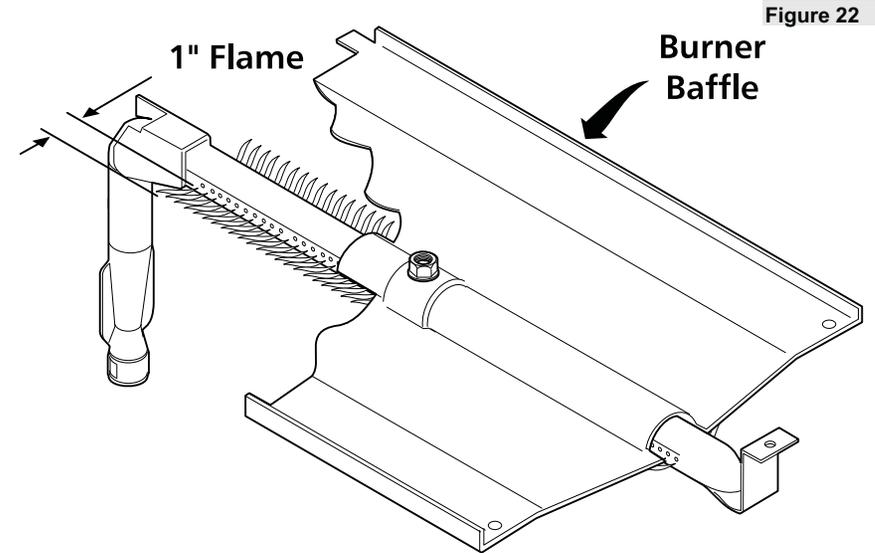

Figure 22
The air shutter for the oven bake burner may need adjustment, especially if the unit has been converted for use with LP/Propane gas. The approximate flame length of the oven burner is 1 inch (distinct inner, blue flame) (see figure 22).
- A. Observe the flame to determine if the broiler burner flame is properly adjusted. It should be steady with approximately 1" blue cones and no yellow or orange flame tips (figure 22).